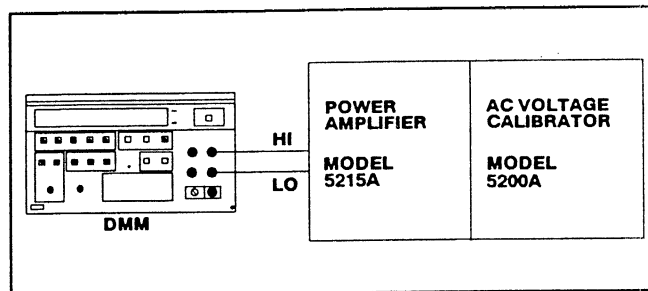

Fig. 3-3. AC Volts Calibration Configuration.
- c. Connect the DMM to the AC calibrator as shown in Fig. 3-3.
- i. Repeat steps d through h for the remaining ACV ranges using Table 3-4 and Fig. 3-3 as a guide.